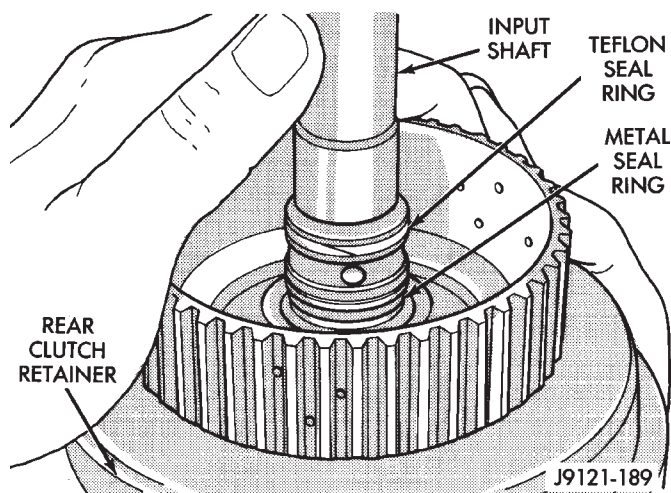

Fig. 154 Input Shaft Seal Ring Location
(19) Check seal ring on rear clutch retainer hub (Fig. 49) and seal rings on input shaft (Fig. 154). Verify that diagonal-cut ends of teflon seal rings are properly